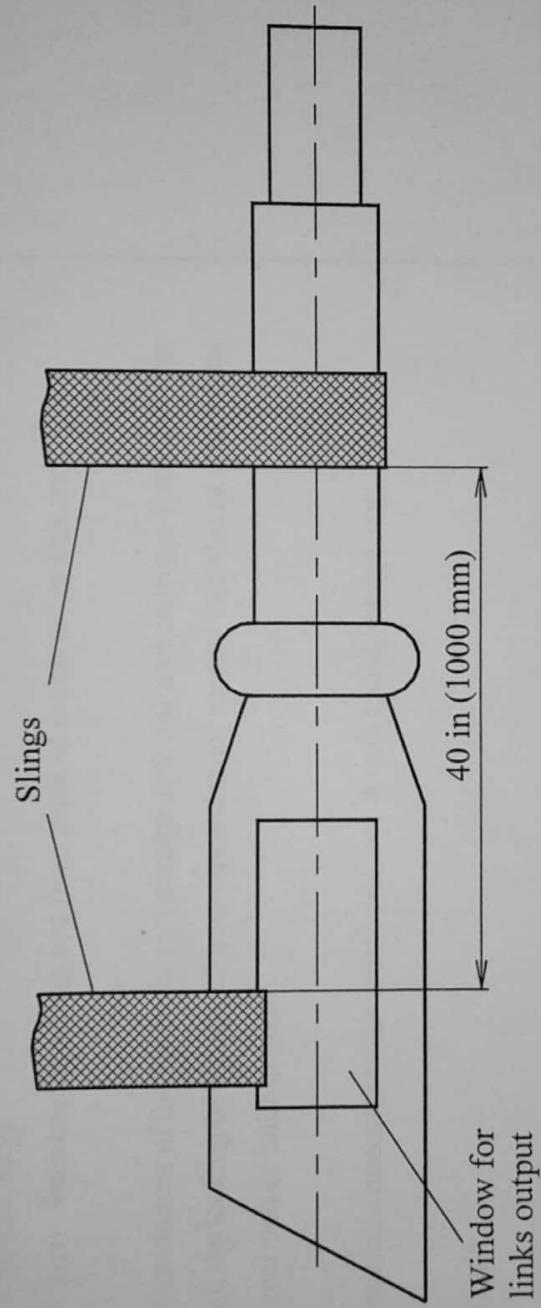

Fig. 202. Layout diagram of slings on 9-A-4071K article
8. Attach the sling to the article barrel and breech (Fig. 202). Lift the article with crane till the slings tension.
3. Move the article to the aircraft. Prepare lifting crane for operation. Attach slings to the article barrel and breech (Fig. 202).